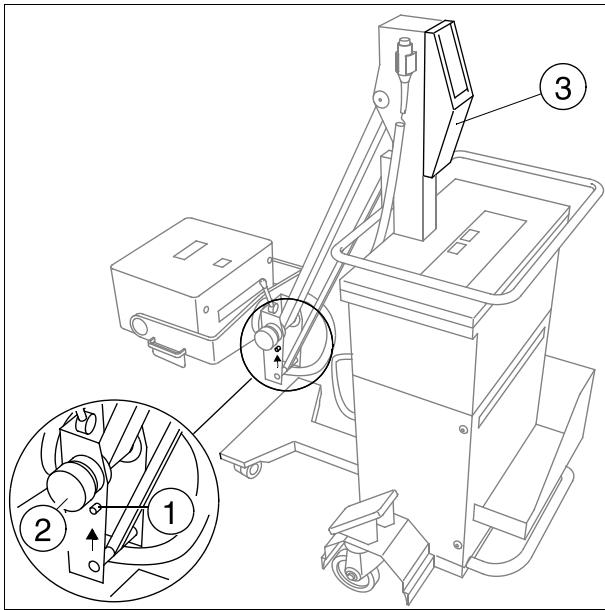

Fig. 7:
- Release the support arm from the (transport) park position (1//Fig. 7 / p. 30)
- Slowly move the support arm into the uppermost position. When doing so, the support arm must stop in any desired position without accessories attached and without the supplementary brake applied (2//Fig. 7 / p. 30).
- Check the additional locking of the support arm with the knob (2//Fig. 7 / p. 30)
- Remove the cover (3//Fig. 7 / p. 30) from the stand.
- Fully release the supplementary brake on the support arm (2//Fig. 7 / p. 30).
- Reinstall the stand cover (3//Fig. 7 / p. 30).